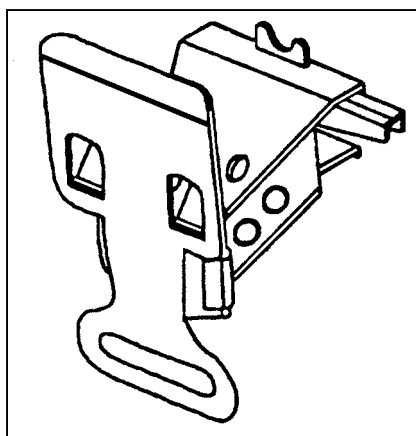

Figure 3-5. Ammunition adapter.
The ammunition adapter is used on the M240B machine gun when firing. This adapter allows the gunner to use the 100-round carton and bandoleer. (Figure 3-5)
a. **Attaching the Ammunition Adapter.** The ammunition adapter is fitted to the left side and under the feed tray of the receiver. When looking at the left side of the receiver, you will see a slot and a button under the feed tray (Figure 3-5). The gunner first attaches
the bandoleer holder to the base of the adapter by inserting the tapered end (green plastic) of the holder into the adapter. Then the gunner opens the cover assembly, and raises the feed tray. He inserts the curved lip of the adapter assembly into the slot located in the rail on the left of the receiver, below the feed tray, depressing the lever on the adapter assembly, and pushing the assembly towards the receiver, until it is against the receiver. Releasing the lever to allow the adapter assembly to secure itself onto the button on the receiver (Figure 3-5).